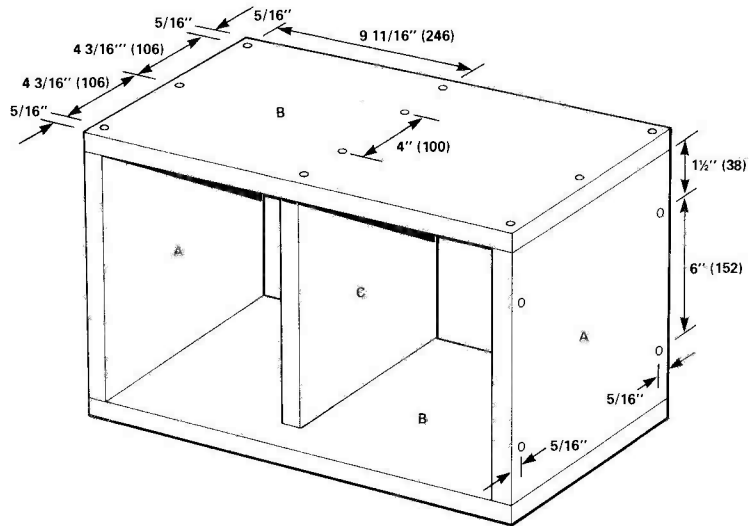

Fig. 5 Construction of the cabinet.
Assuming one has all the panels to hand construction can commence. Start by labelling each panel with the appropriate letter on its worst side, see Fig. 5. Find the partition panel (C) and drill a 1/4" (6mm) hole in it to take the wires from the drive unit. The position of this hole is far from critical, and anywhere near the centre of the panel will be fine!